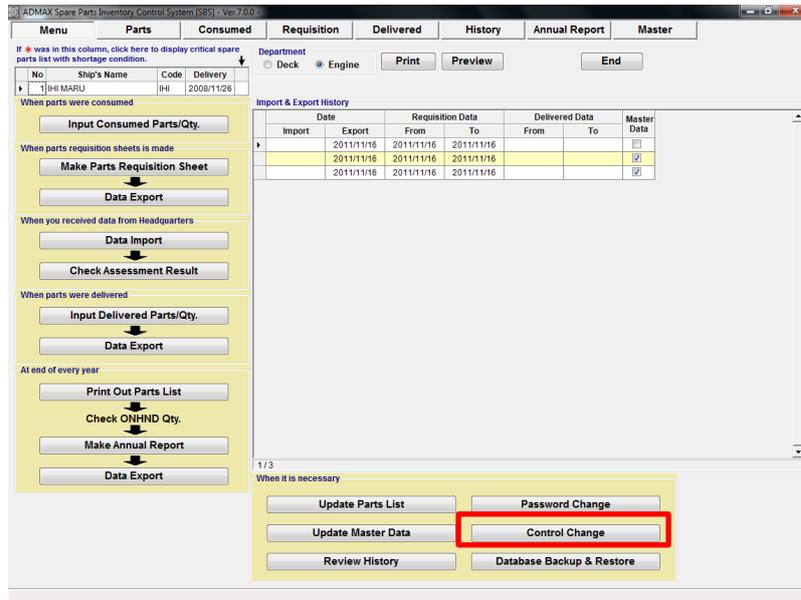

Fig 15.1 Menu
1. Select [Control Change] button on the "Menu Screen"(Fig.15-1).